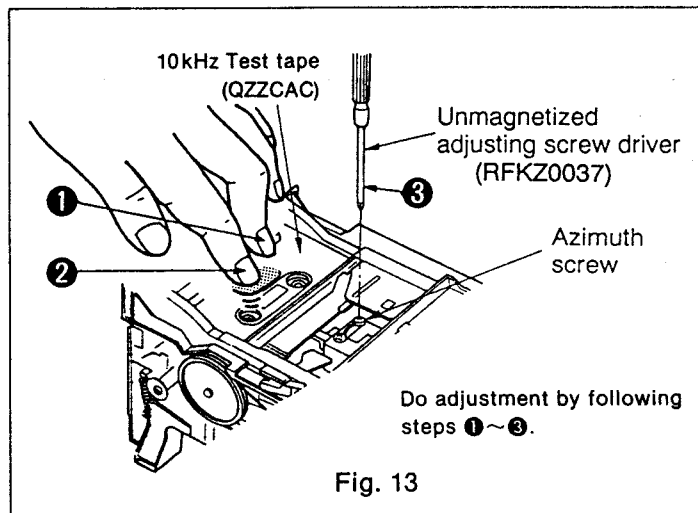

Fig. 13
2. While reverse playing and keeping your finger pressed on the Supply reel cap (to apply a load), turn the left side Azimuth screw as was done for the forward side adjustment (Fig. 13).